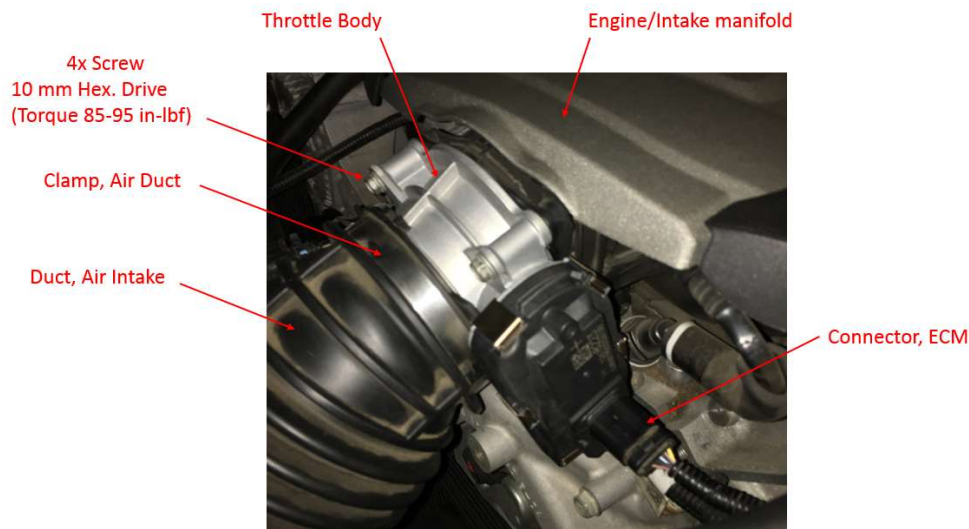

Figure 1. Throttle Body and mating components viewed from left (driver) side.
- 2- Refer to figure 1. Open the hood and allow engine to cool to ambient temperature, locate the throttle body near the center of engine bay and in front of the engine.
- 3- Refer to figures 1 and 2. Disconnect the ECM connector by pulling the red clip (underside of the connector) away from the throttle body until it bottoms out. Press the tab (underside of the connector) while pulling connector away from the throttle body.
- 5- Refer to figure 1. Remove the 4x 10 mm hex drive screws (2x right side and 2x left side). Move air intake duct to the left/right as needed to gain access to screws.